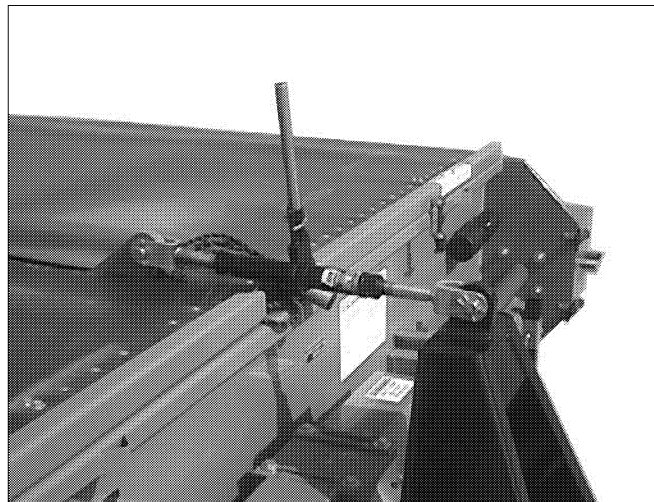

Figure 4 Hitch Ratchet
1. Use ratchet or hydraulic cylinder on the hitch to lower the hitch and transfer the weight to the drawbar. See Figure 4.